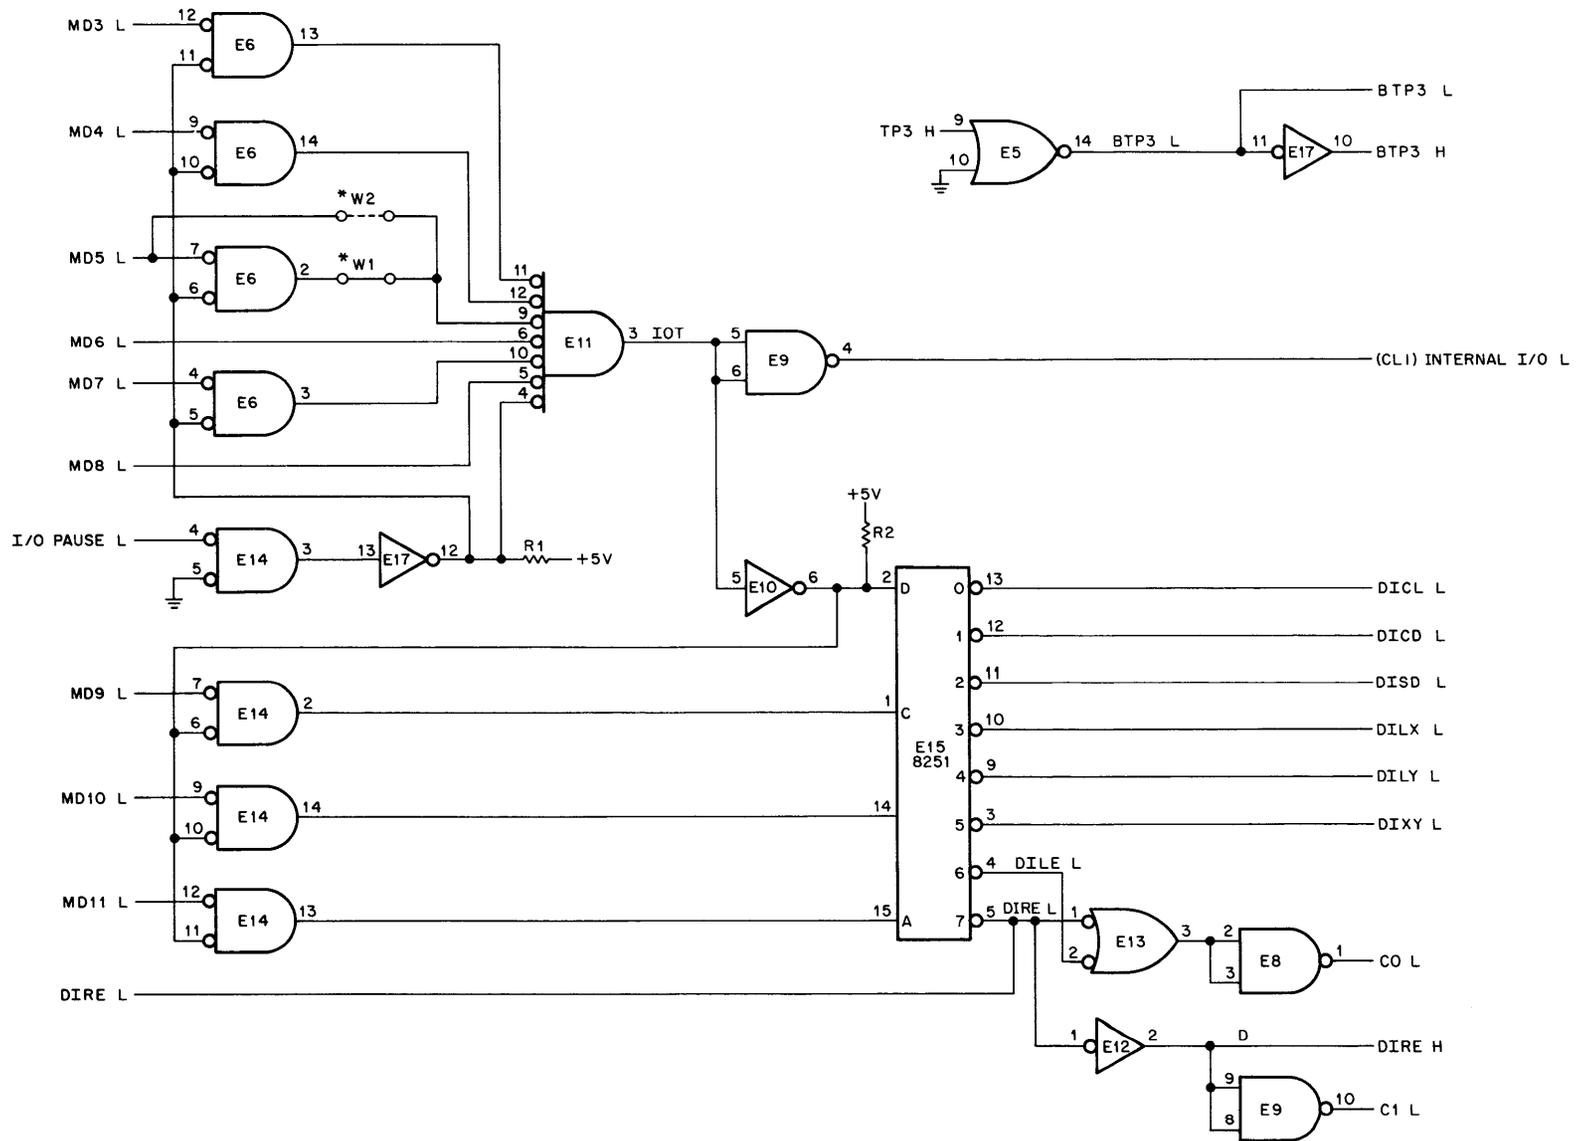

Figure 4-36 Device and Operation Select Logic
4.4.2.1 Device and Operation Select Logic — The Device and Operation Select logic (see Figure 4-36) decodes MD03–MD11 and selects the device and type of operation that will be performed. MD3–MD8 are gated for each MD Line by I/O PAUSE. An internal I/O PAUSE signal is generated in the timing generator whenever MD bits 0–8 are decoded as a 65 (octal). The 8251 IC is a BCD-to-Decimal Decoder that will provide low outputs on one line; e.g., MD9–MD11 is 011. Pin 3 will have a low output, indicating that this is a 6053 (DILX) instruction. The truth tables, logic diagrams, and pin locator for the 8251 IC are in Appendix A of the *PDP-8/E Maintenance Manual*. The output of the Operation Select logic will provide signals to enable Interrupt logic, select the C lines, allow loading of the X and Y Registers, generate a Z-axis pulse, and clear the logic after the data is displayed.